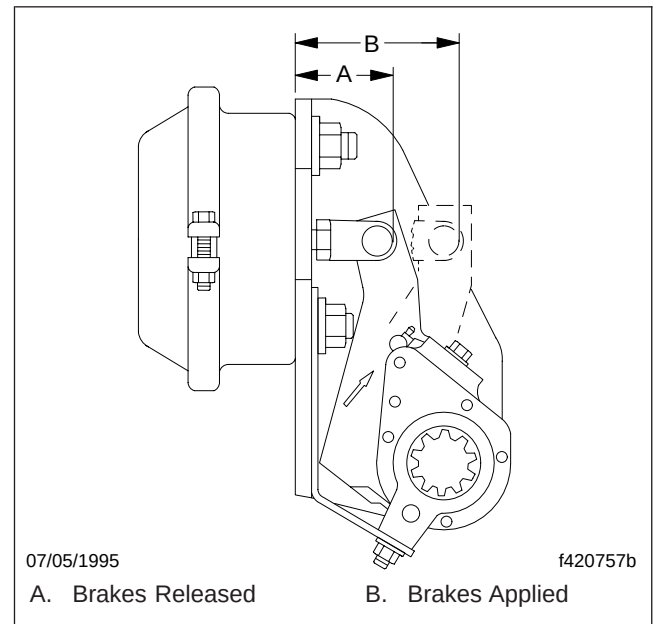

Fig. 6, Measuring the Stroke
- 7.2 Fully apply the brakes. Then, measure the distance from the bottom of the brake chamber to the far side of the clevis pin hole. See Fig. 6, Ref. B. Record this measurement as dimension C.
- 8.1 Measure the distance from the bottom of the brake chamber to the far side of the clevis pin. See Fig. 6. Record this measurement as dimension A.
- 8.2 Using a lever, move the slack adjuster until the brake linings contact the brake drum. Then, measure the distance from the bottom of the brake chamber to the far side of the clevis pin. See Fig. 6. Record this measurement as dimension B.